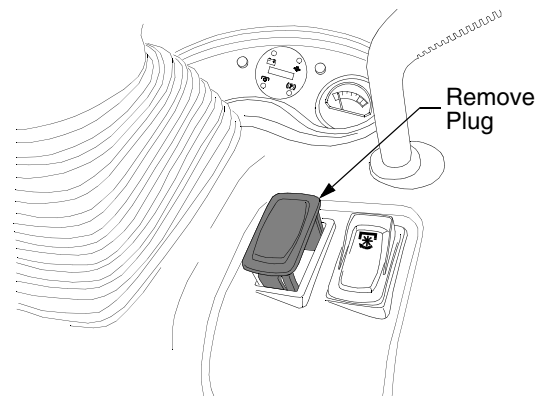

Figure 1
- Remove the plug from the right side of the dash panel by sliding a thin flat edged tool beneath the plug and prying upward. See Figure 1.